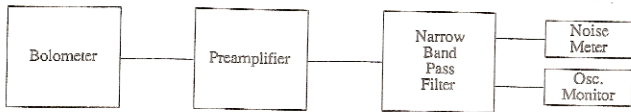

Figure 6: Noise Measurement Setup
- (d) After connecting the apparatus as shown in Figure 6, checks must be made to eliminate all interference from power line or other sources. With preamp input shorted or connected to the detector, the waveform on the oscilloscope must be free of ripple or other signals such as partially rectified r.f. coming from nearby transmitters. Ground loops, lack of a good ground, proximity to transformers in oscilloscopes or other equipment, or poor shielding between detector and preamplifier are common causes of extraneous pick-up.